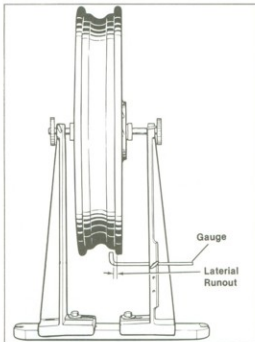

Figure 2-30. Checking Cast Rim Lateral Runout
- See Figure 2-30. Install arbor in the wheel hub and place wheel in the truing stand. To check rim lateral runout, place a gauge rod or dial indicator near the rim bead. If lateral runout exceeds 3/64 in., replace the wheel.